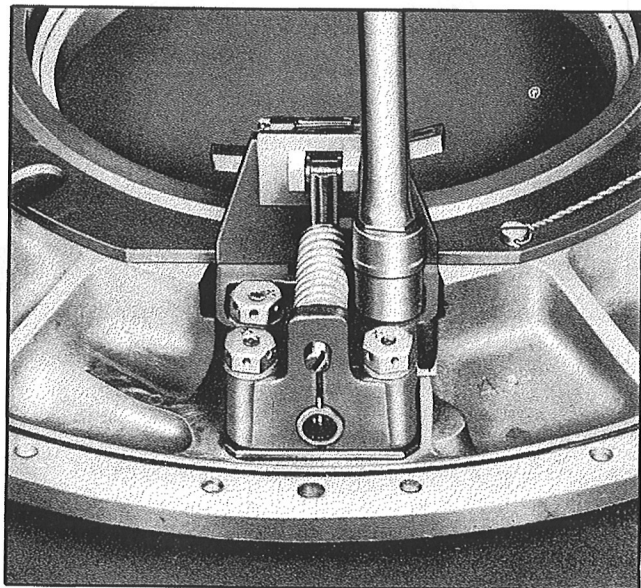

Figure 142—Removal of the Governor
Step 20.—Remove the governor from the regulator housing, as shown in Figure 142, by cutting the safety wire and removing the  $\frac{1}{4}$ " x 28 capscrews and washers, using a  $\frac{7}{16}$ " socket wrench.